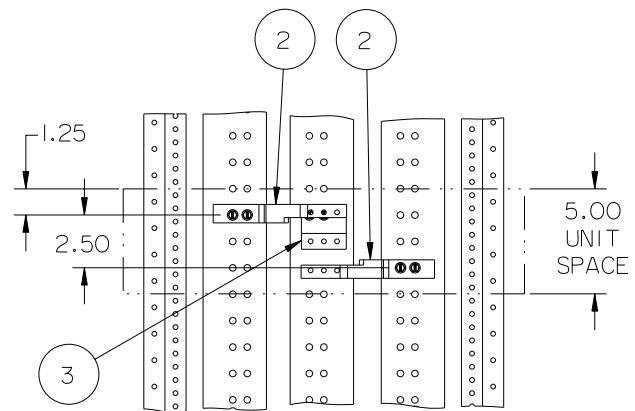
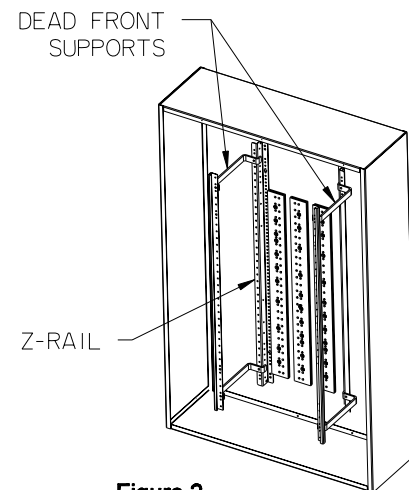

Figure 4
Figure 2
5. Reference fig. 4 - The first items to be installed are the line straps (items 2 and 3). Locate two 0.228" diameter holes on the B  $\phi$  of the section bus, 1-1/4" down from the top of the 5.0" unit space selected. Insert two 1/4-20 thread forming screws (see the mounting hardware kit for the proper length) through the two holes in the B strap (item 3) and then into the 0.228" diameter holes on the B  $\phi$  bus and tighten. Repeat this step to install the A  $\phi$  strap (item 2) onto the A  $\phi$  bus. To install the C  $\phi$  strap (item 2), locate two 0.228" diameter holes on the C  $\phi$  bus 2.50" below the mounting screws of the A  $\phi$  and B  $\phi$  straps. Insert two more of the 1/4-20 thread forming screws through the two holes in the strap and then into the 0.228" diameter holes in the C  $\phi$  section bus. Torque all screws to the values specified on the rear of the dead front.
3. Reference fig. 2 - To mount a QJ Breaker, 5" of empty unit space is required. To locate the mounting position, measure from the top dead front support to the top of the empty unit space filler on the dead front. Transfer this dimension from the dead front support along the Z-rail and mark. This will be the unit space as shown on fig. 4. After marking the Z-rail, remove the dead front.